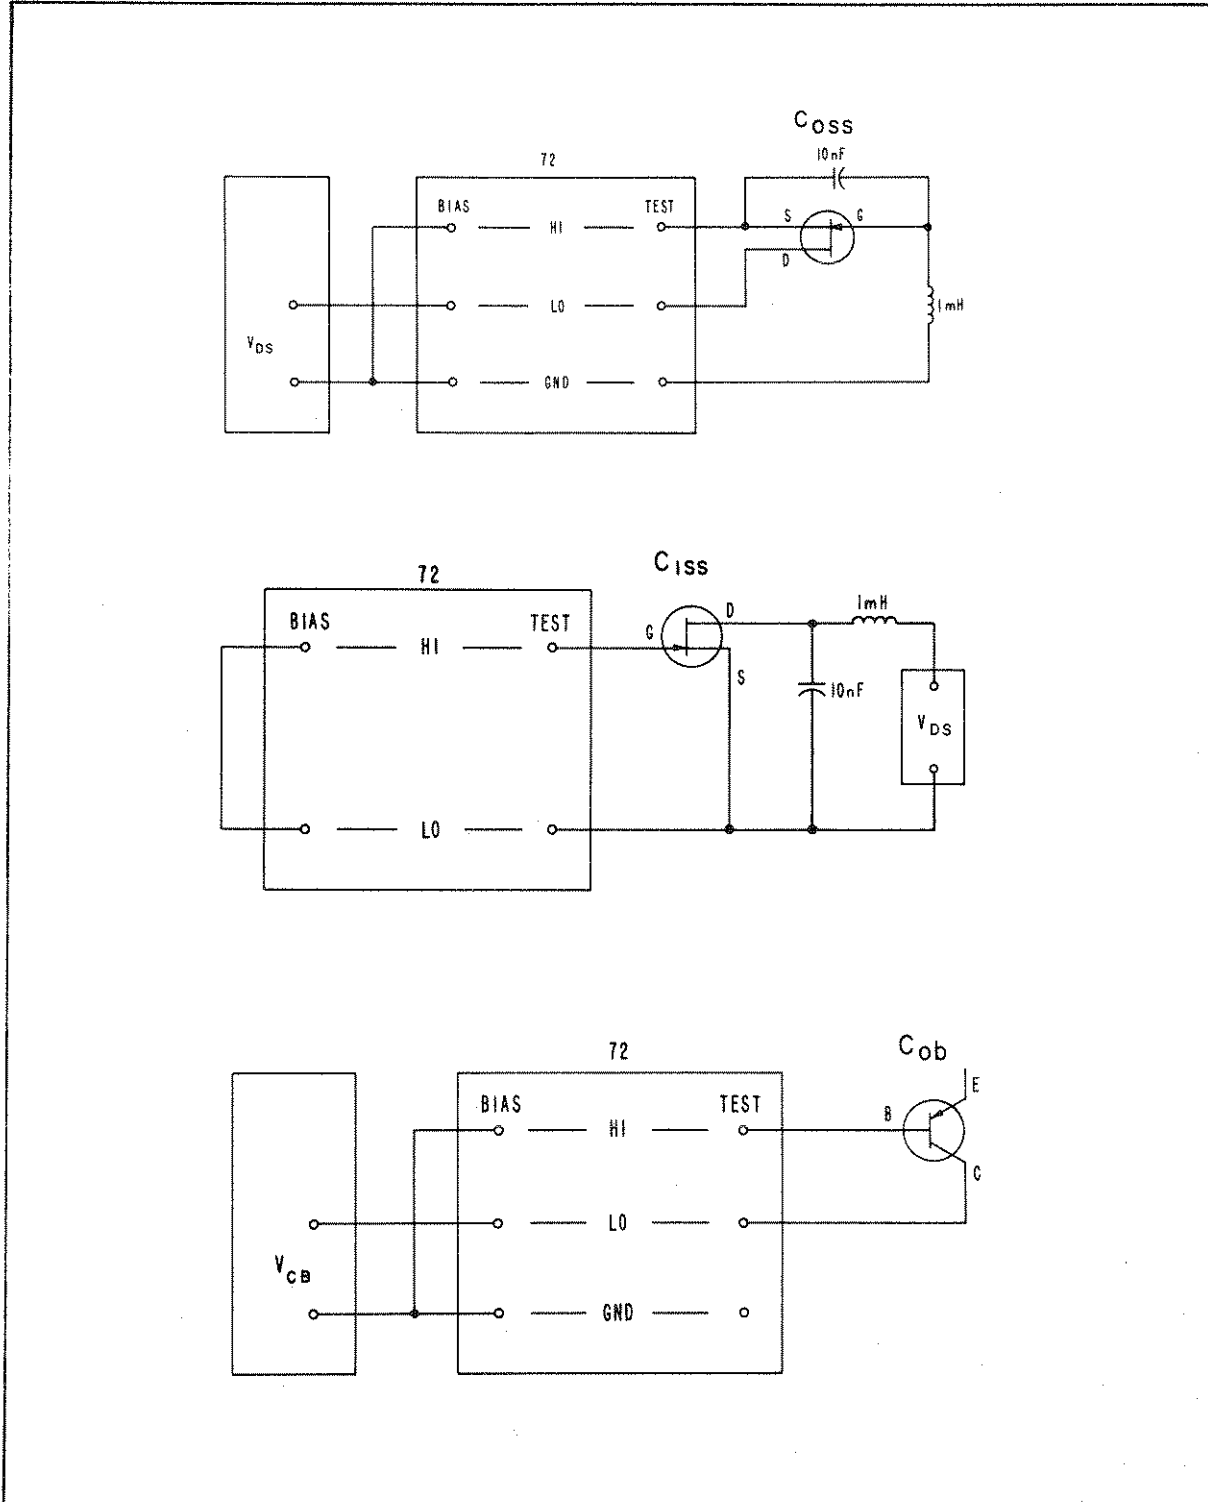

Figure 2-5. Transistor Capacitance Measurements: C_{oss}, C_{iss} and C_{ob}
B. Capacitance (Two Terminal). See Figure 2-5.
is small. Unfortunately, the phase of the drain current lacks the required +90 degrees. A network is needed that presents a low impedance to the drain, and that provides the necessary phase shift of +90 degrees. The circuit shown in Figure 2-5 satisfies these conditions. The resistor, R, is the calibrating resistor for the full-scale value of g_{fs} . Its value is readily derived. The instrument is calibrated for a high-terminal current of: $i_c = e_g \omega C / 90^\circ$